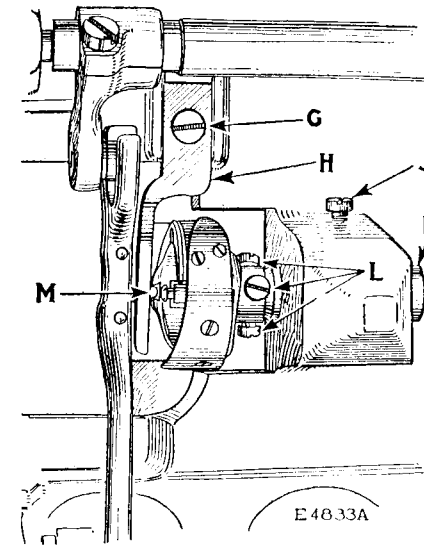
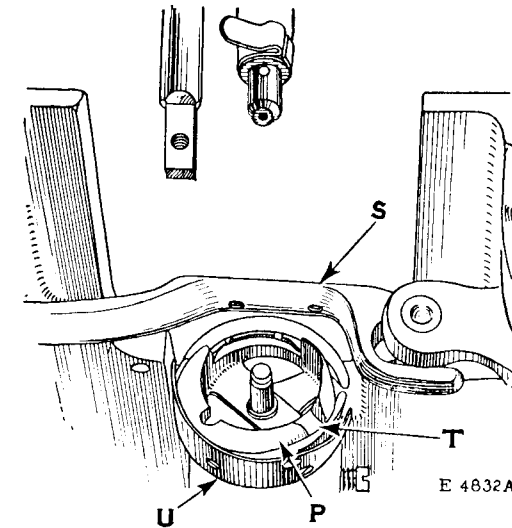

FIG. 18. VIEW OF UNDERSIDE OF MACHINE SHOWING BOBBIN CASE HOLDER POSITION BRACKET (H) AND ADJUSTMENTS ON MACHINE
FIG. 21. SHOWING CORRECT POSITION OF THREAD GUARD (U) AND BOBBIN CASE HOLDER (P) FOR REMOVAL OF SEWING HOOK
Remove the slide plate and bobbin case. Take out the screw (G, Fig. 18) and remove the bobbin case holder position bracket
(H, Fig. 18). Take out the three screws (N, Fig. 19) and remove the rotating hook section (O, Fig. 19) and bobbin case holder (P, Fig. 19). This will give a clear view of the point of the hook and the needle for the purpose of timing.
Remove the bobbin case (Q, Fig. 21) until it is in the position shown in Fig. 21. The hook can then be removed from the hook shaft.
In placing a new sewing hook on the shaft, have the (U) of the hook at the bottom and the bobbin case turned to the position shown in Fig. 21, so that the ear the feed bar (S).
When the hook is in position on the shaft, turn the bobbin case (P, Fig. 21) until the notch (T, Fig. 21) is at the top, the bobbin case holder position bracket (H, Fig. 18), and look to see that the position stud (M, Fig. 18) enters the hole at the top of the bobbin case holder, as shown in Fig. 18,
Remove the needle, slide plate and bobbin case. Take out the screw (G, Fig. 18, page 17) and remove the bobbin case holder
position bracket (H, Fig. 18). Loosen the three set screws (L, Fig. 18) in the hub of the hook, then turn the balance wheel over toward you until the feed bar (S, Fig. 21) is raised to its highest point. Turn the sewing hook until the thread guard (U, Fig. 21) is at the bottom, as shown in Fig. 21, and turn the bobbin case holder (P, Fig. 21) until it is in the position shown in Fig. 21. The sewing hook can then be removed from the hook shaft.
When replacing a new sewing hook on the shaft, have the thread guard (U) of the hook at the bottom and the bobbin case holder (P) turned to the position shown in Fig. 21, so that the hook will clear the feed bar (S).
When the hook is in position on the shaft, turn the bobbin case holder (P, Fig. 21) until the notch (T, Fig. 21) is at the top, then replace the bobbin case holder position bracket (H, Fig. 18), being careful to see that the position stud (M, Fig. 18) enters the notch at the top of the bobbin case holder, as shown in Fig. 18,
then securely fasten the position bracket by means of the screw (G, Fig. 18). Replace the needle and time the sewing hook as instructed on pages 17 and 18. When tightening the three screws (L, Fig. 18) in the hub of the hook, draw the hook shaft toward the needle bar end of the machine and press the hook toward the balance wheel so as to take up the end play in the shaft. Then replace bobbin case and slide plate.